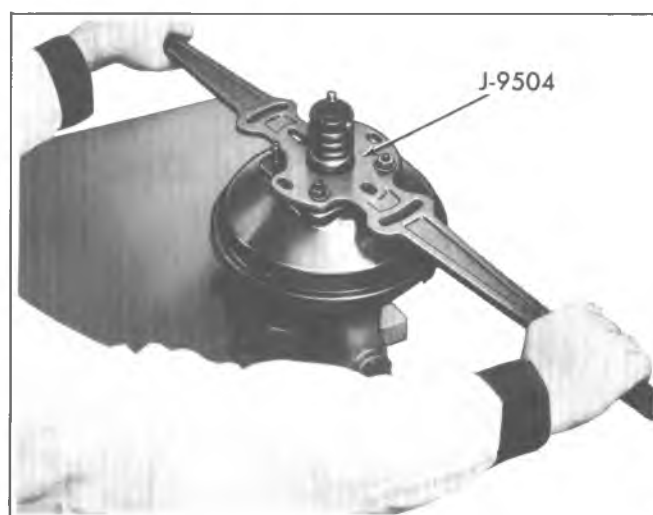

Fig. 5-4C--Separating Tilt Bracket Type Housings
b. **Tilt Mounting Bracket (Fig. 5-4C)** - Place tool J-22893 inside tilted mounting bracket. Place Spanner Wrench J-9504 on top of J-22893 and tighten nuts and washers securing spanner wrench.